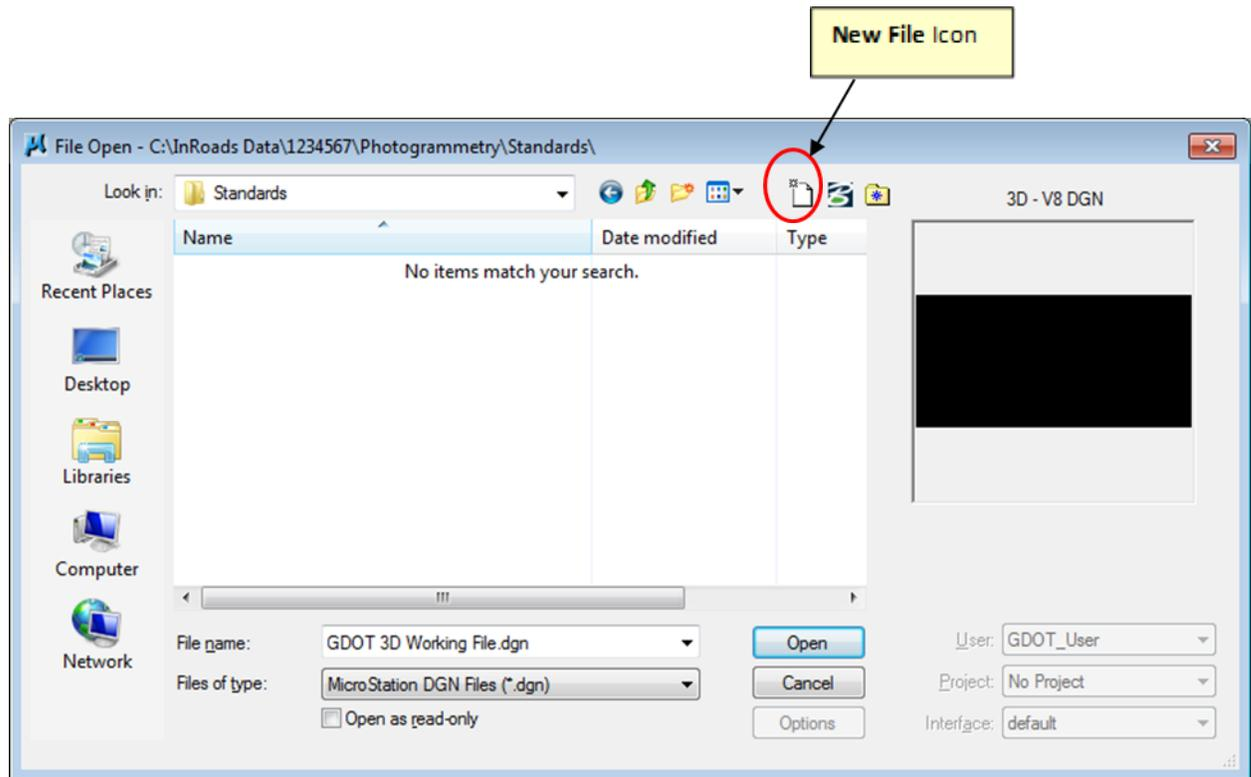

Figure 1-1 Starting MicroStation V8i and InRoads V8i
The **MicroStation** software will open first before **InRoads**. After the **MicroStation** Splash Screen appears, the **MicroStation Manager** dialog (See *Figure 1-1*) will open so that a “Working” DGN file can be created or an existing “Working” DGN file can be opened. The **InRoads** software can then be initiated.
- After the **MicroStation** Splash Screen appears, the **MicroStation Manager** dialog box will open. (See *Figure 1-1*).
- In the **MicroStation Manager** dialog box, click on the **New File** icon  (See *Figure 1-1*) depicted above. The **New File** command will be used to create the “Working” DGN file.